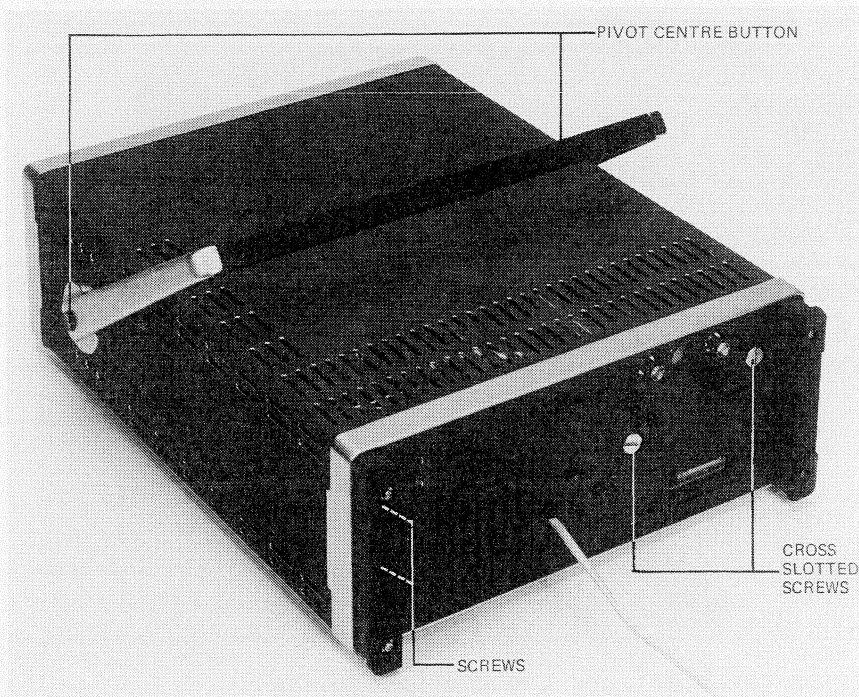

Fig.5.1. Removing the instrument covers
- Slacken the two coin slot screws located on the rear panel (Fig. 5.1.).
- Prise off centre knob from each pivot using a screwdriver (Fig. 5.1.). in one of the small slots in the side of the knobs.